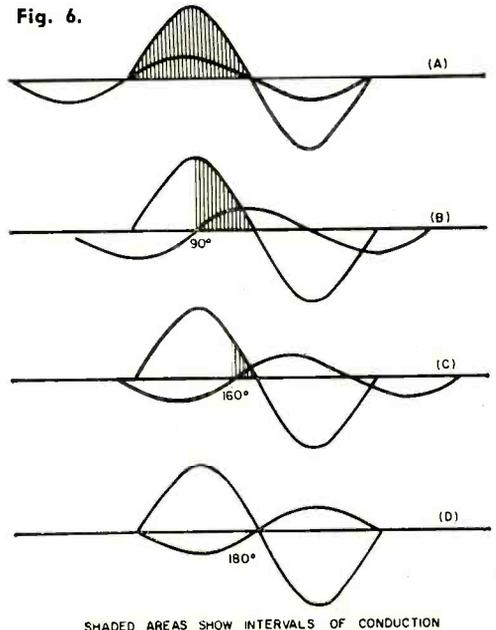
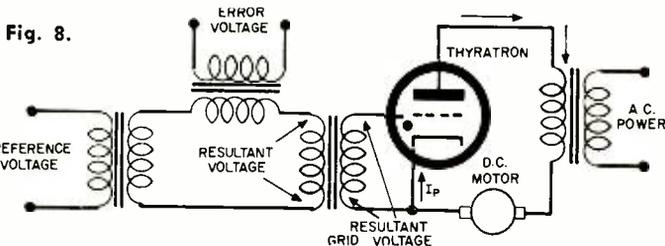

Fig. 6.
Fig. 8.
Phase-Shift Control. Using an alternating grid voltage of constant amplitude which can be *shifted in phase*, the thyatron average current can be varied from maximum to zero. Figure 6 shows how a phase-shift grid control voltage affects plate current during a cycle.
In Fig. 6(A), the grid voltage is in phase with the plate voltage so that the tube fires for a full 180° (one-half cycle). When the grid signal is 90° out of phase with the anode voltage, the thyatron firing period is approximately 90° long (one-quarter cycle) as in (B). Figure 6(C) shows a 20° conduction interval when the grid voltage is 160° out of phase with the anode supply voltage.
A basic uni-directional thyatron servo control is shown in Fig. 8. Assume that the transformer turns ratios and polarities are such that, with no error signal introduced, the resultant voltage applied to the thyatron grid is at least equal to the critical voltage and out of phase with the anode potential, as in Fig. 6(D), so that no conduction occurs at all. For this condition, the motor will be supplied with zero power and will not turn.
As soon as the error signal appears, the resultant grid voltage undergoes a shift of phase, possibly to the condition given in Fig. 6(C), so that a small current now flows through the motor. This current will drive the motor in the direction which reduces the error signal. If the error signal is larger, the phase shift is correspondingly greater, the conduction interval increases, and the motor turns farther and faster to correct the larger error.